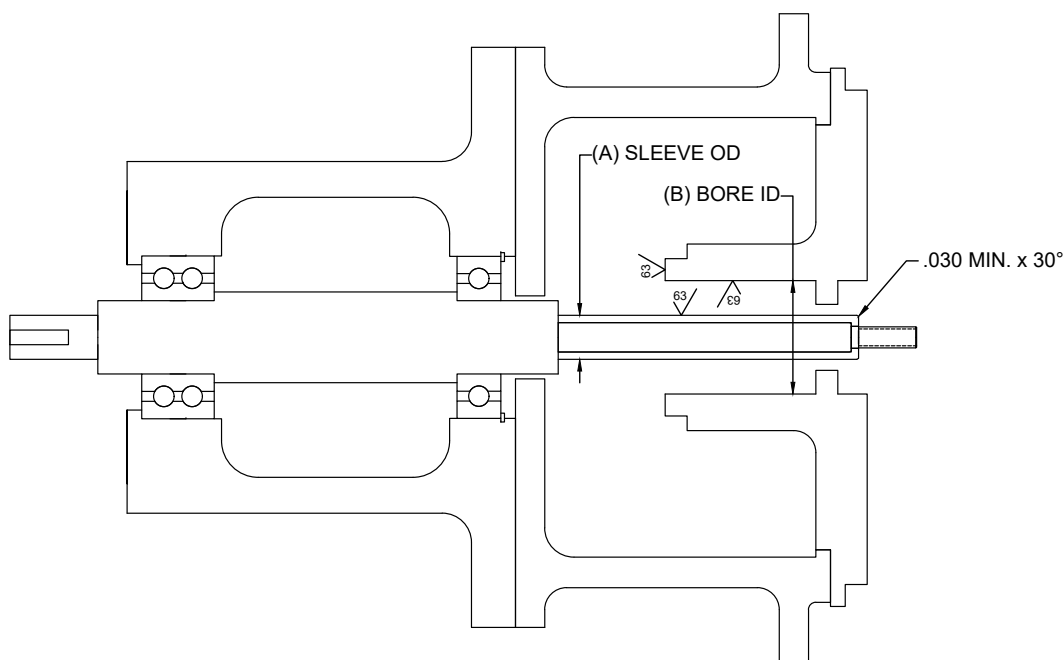

Figure 1: Surface finish and chamfer locations. Fully assembled pump without seal.
5. Sealing surfaces and the shaft or shaft sleeve must have at least a 63 Ra- $\mu$ in surface finish as seen in Figure 1.
6. For ease of installation, the leading edge of the shaft or sleeve should be chamfered as shown in Figure 1 and all parts should be deburred.